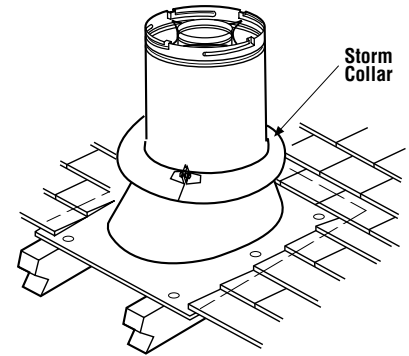

Figure 30
J. Install the storm collar - Install the storm collar, supplied with the flashing, over the vent/flashing joint. See Figure 30. Loosen the storm collar screw. Slide collar down until it meets the top of the flashing. Tighten the adjusting screw. Apply non-combustible caulking or mastic around the circumference of the joint to provide a water tight seal.